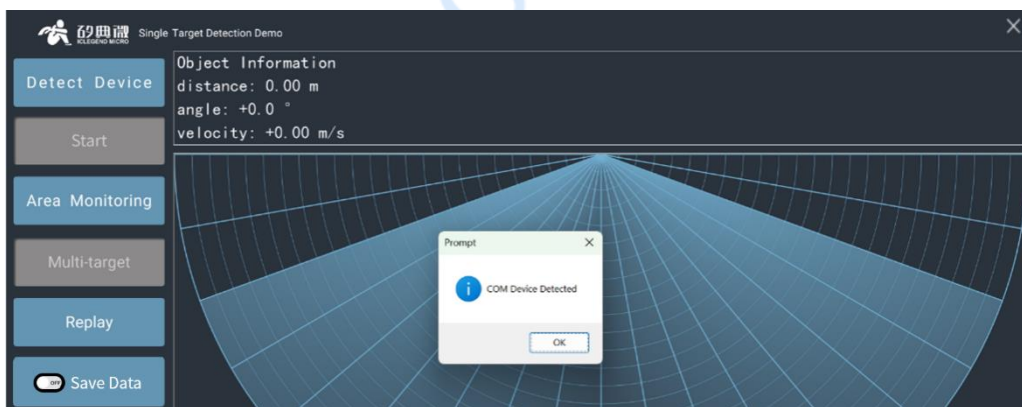

Figure 4-4 Device successfully detected
Step 2: Click the **Detect Device** button: if the module successfully connected to the host PC, a window writing Serial Port Device Detected will appear, as shown in Figure 4-4, click the **OK** button to continue;